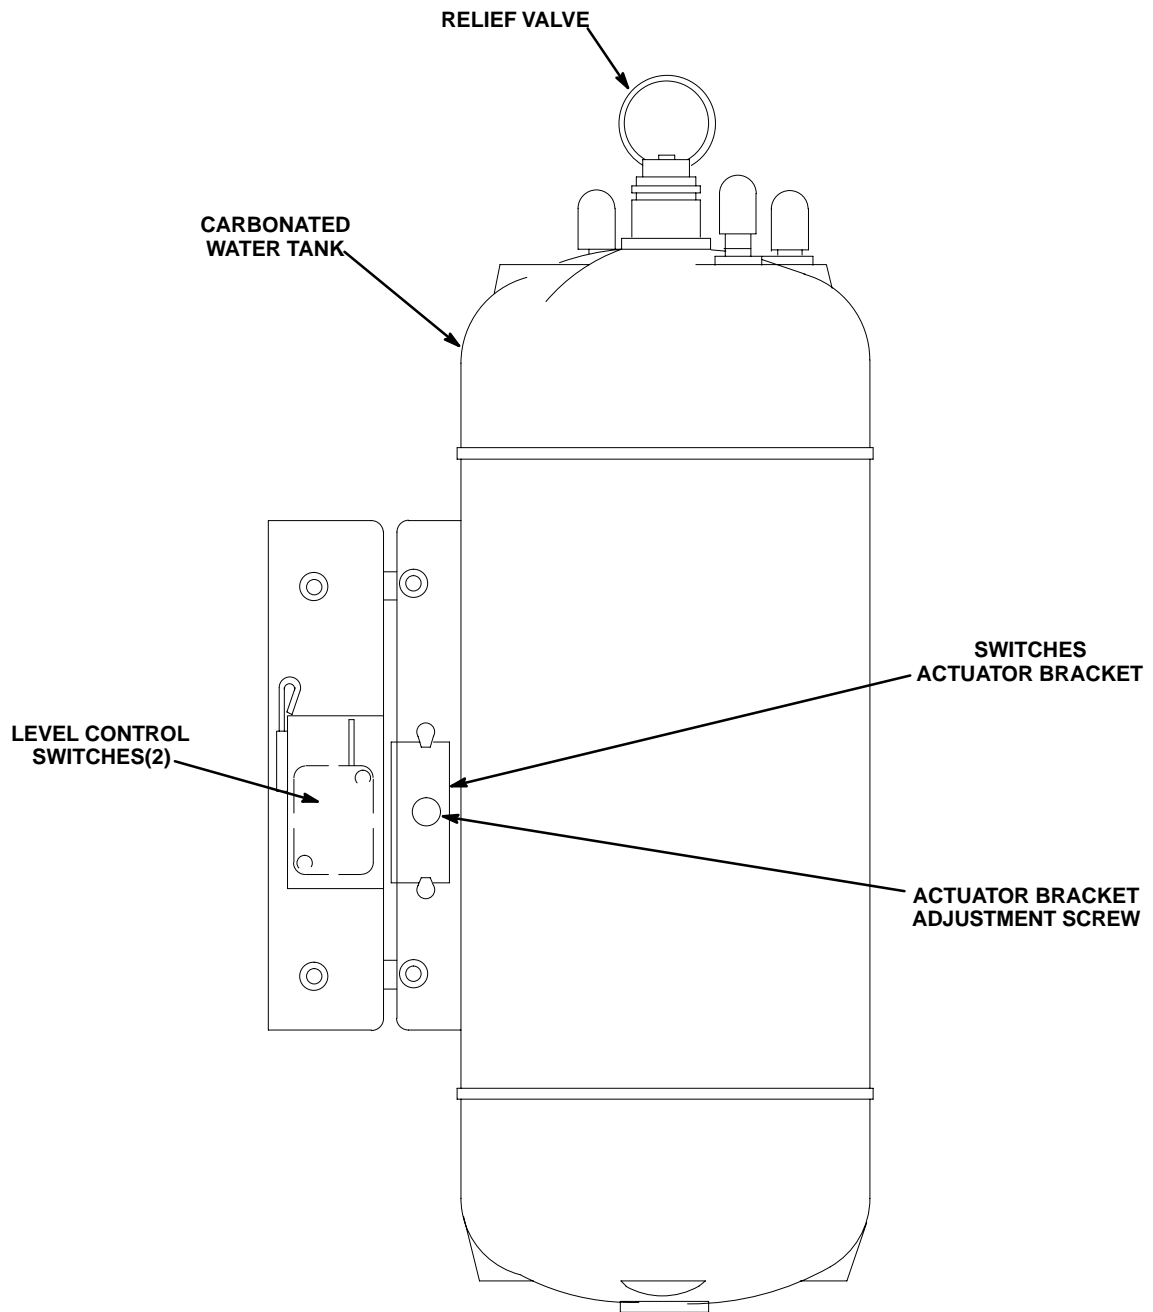

FIGURE 14. CARBONATOR LIQUID LEVEL CONTROL SWITCH ADJUSTMENT
4. If total carbonated water dispensed is below 40 ounces, loosen screw securing level control switches actuator bracket (see Figure 14) and move actuator bracket up slightly. If more than 58 ounces, maximum of carbonated water was dispensed, move actuator bracket down, then tighten screw. **MAKE ADJUSTMENTS IN SMALL INCREMENTS.**